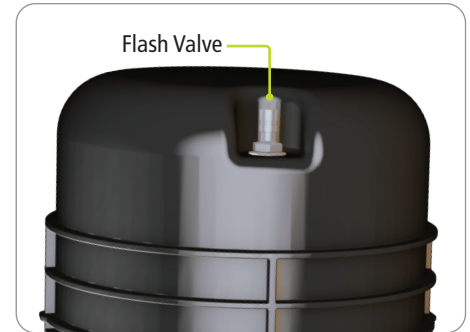

Figure 51
1. Apply 5 PSI of air to the flash valve on dome. (Figure 51)